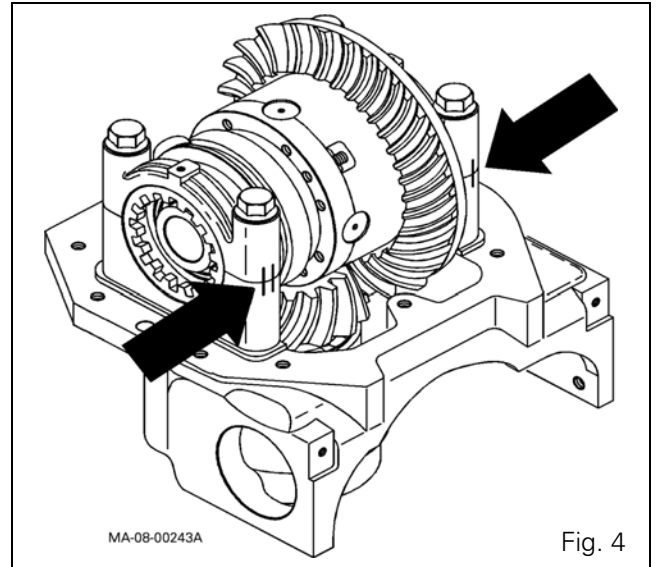

Fig. 4
9. Before removing the screws, make indelible marks to mark the position of the two half-bearings and the differential housing to avoid reassembling the wrong way round. Also mark the area between the nuts and the differential housing (Fig. 4).